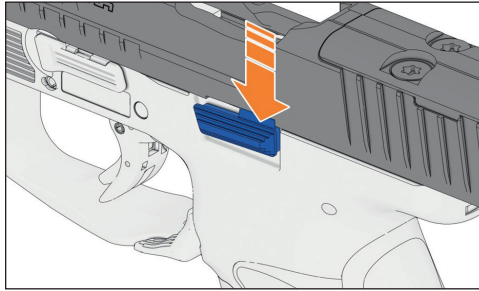

Figure 25 – Removing slide from frame assembly by guiding it forward
3. Depress the slide release and guide the slide forward, removing the slide from the top of the frame assembly (see Figure 25).